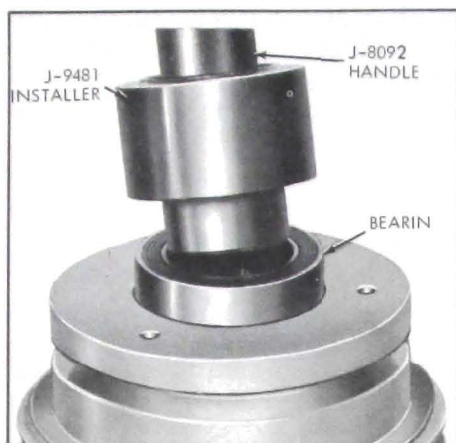

Figure 11-50—Installing Pulley Bearing
1. When replacing a new ball bearing assembly into the pulley, use J-9481 pulley bearing installer and drive handle J-8092 as shown. See Figure 11-50.